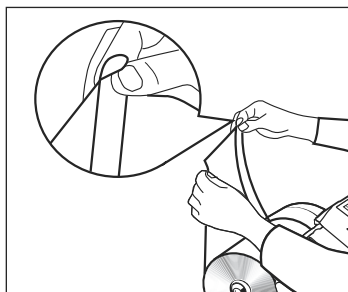

Figure 3
2. Open the air channel on right side of film roll. (See Figure 3)